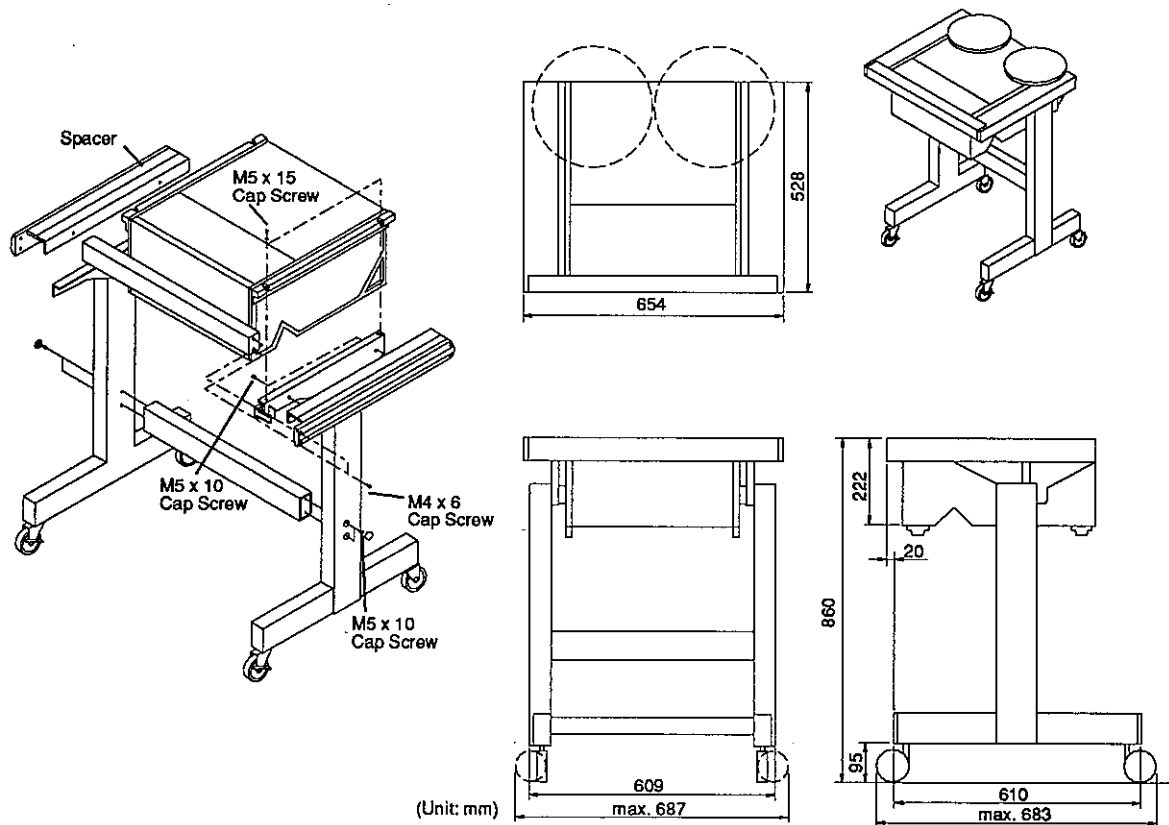

Figure 5-12
5.4.1.3.3 Assembling the ZA-5BN (Refer to Figure 5-12)
2. Assemble the Spacer and the stand as shown in **Figure 5-12**.
3. Mount the MX-55 to the Stand using the M5x15 Cap Screws with washers as shown in **Figure 5-12**.